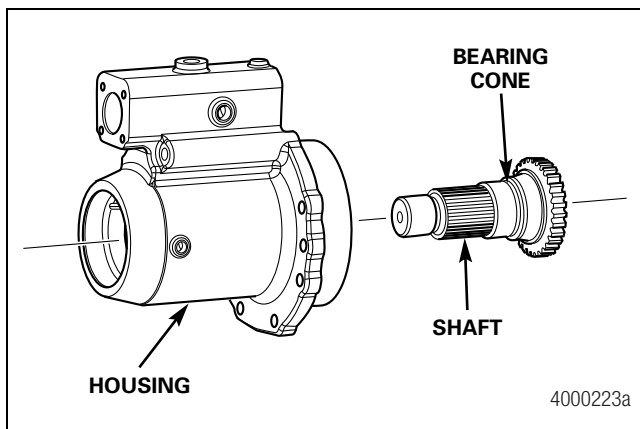

Figure 7.9
- B. Preheat the first bearing cone to 200°F (93°C). Support the shaft and slide the heated cone in place onto the output shaft. Figure 7.9.